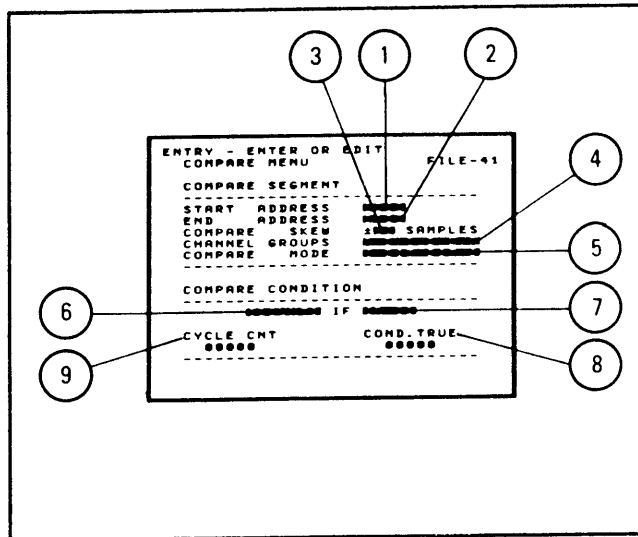

FIGURE 5-22. COMPARE MENU KEYS
In the following section, the operational theory and procedures for programming the COMPARE MENU are given. The text is keyed to circle numbers in Figure 5-22. The operating procedure for each major field is found in the figures in this section.
5.3.5.6 Compare Counters. In this portion of the COMPARE MENU there are two fields that only display information: the "CONDITION TRUE" counter ⑨ and the "CYCLE COUNTER" ⑧ (See Figure 5-22). The "CONDITION TRUE" counter displays the number of times a condition has been met. The "CYCLE COUNTER" displays the number of times the comparison has been made.